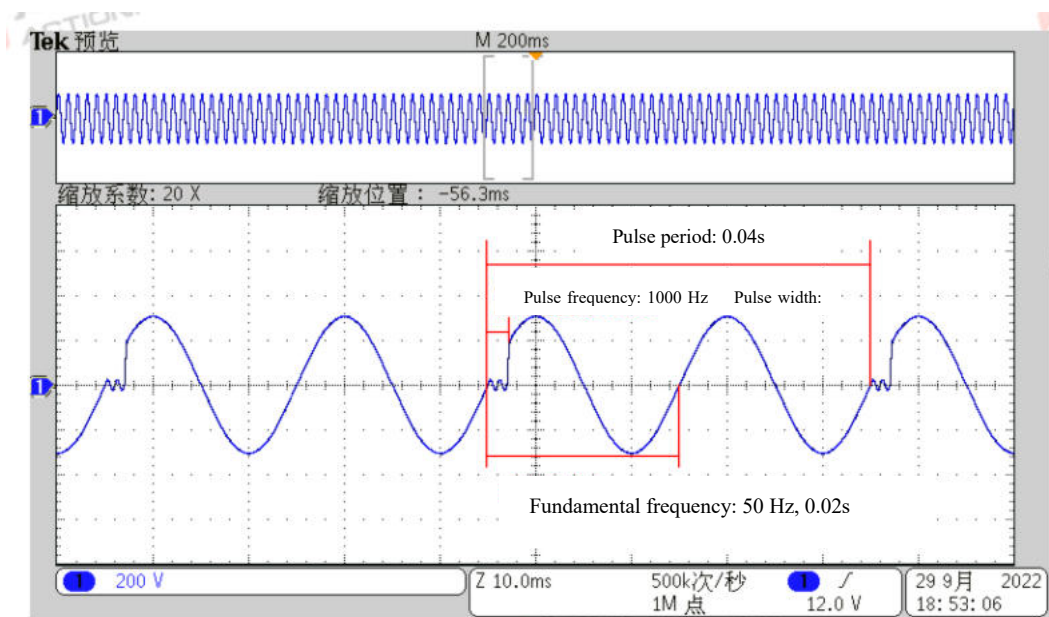

Figure 7.3.4.2 Transient Pulse Waveform Diagram
- Example: Select AC coupling mode, set output phase count to three phases, configure Pulse settings as shown in Figure 7.3.4.1, with corresponding waveform displayed in Figure 7.3.4.2